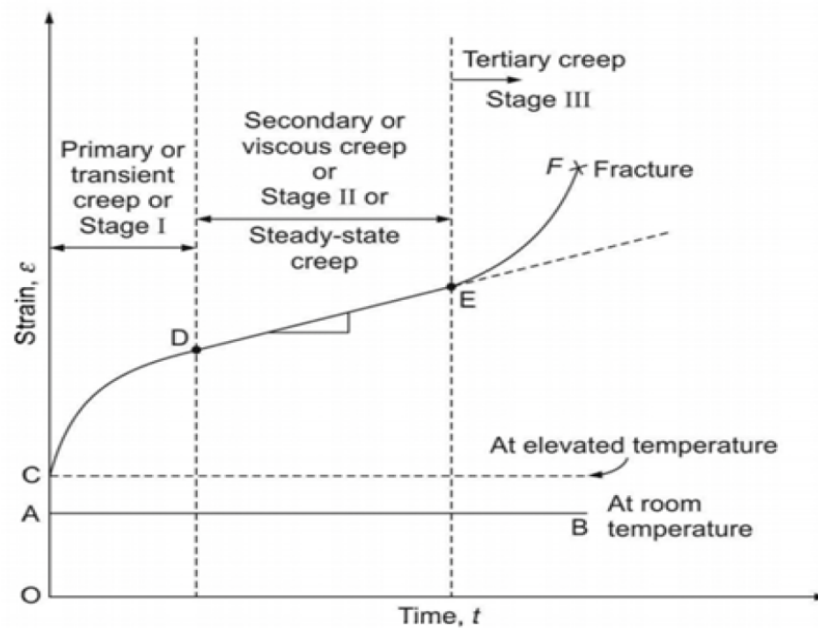

Fig. 4.6: An ideal creep curve showing three stages of creep.
4.2.4.1 CREEP CURVE (FIG. 4.6)